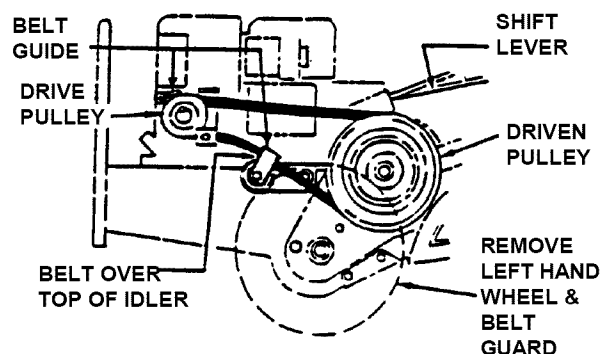

FIGURE 14
3.5.2 BELT REPLACEMENT: Pull the clevis pin from the left wheel and slide the wheel out 1", remove belt guard and then the old belt. **NOTE:** Replacement belt must go over the top of the idler and be within the belt guide as shown in Figure 14. Check belt tension as described in BELT TENSION ADJUSTMENT Section. Reinstall guard, push left wheel back into position and secure with clevis pin and insert and secure cotter pin.